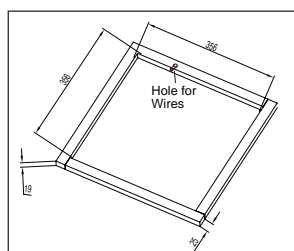

Figure 1
- 3.Examine the roof opening size, if the opening is small than 356x356mm, the opening must be enlarged. If the opening exceeds 356x356mm, a mounting plate (frame) must be fabricated to reduce the opening size (See Figure 1).
If a roof vent opening is not used, a new opening (see figure 1) will be cut into the vehicle roof. A matching opening will also have to be cut into the interior vehicle ceiling, be careful when cutting the ceiling opening because if the ceiling opening is carpeted, snagging could occur. After the opening in the roof and interior ceiling are the correct size, a framed support structure must be placed between the exterior roof top and interior ceiling. The reinforced framed structure must follow the following guidelines:
- 2.It must be capable of holding the roof outer surface and interior ceiling apart and supporting them, so that when the roof top air conditioner and ceiling assembly are bolted together, no collapsing occurs. A typical support frame is shown in Figure 1.